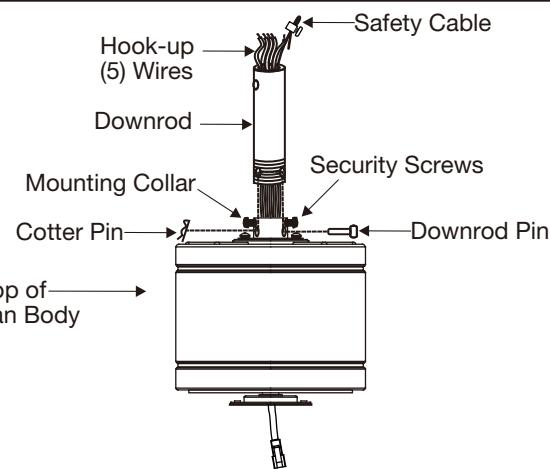

Fig. 2
- 3 Loosen the two security set screws and remove the downrod pin and cotter clip from the coupling on top of the motor assembly. (Fig. 2)
2. Make wire connections from the fan to the receiver unit. For this step use the bundle of 5 wires on the receiver. (Fig. 2)